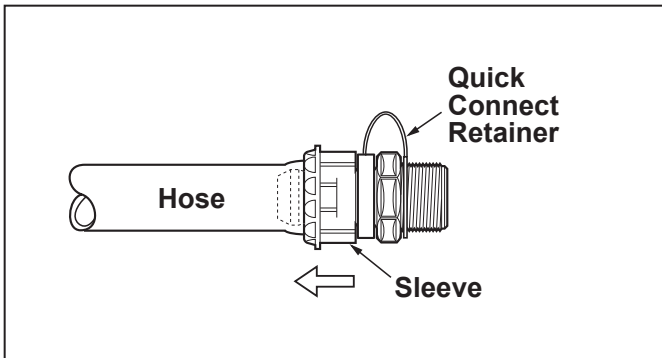

Figure 6. Install the Retainer Clip
5. Holding the hose in place, pull and twist the sleeve on the quick connect over the hose as far as possible. Snap the clip into place. See Figure 6.
NOTE The retainer clip must be installed. If the sleeve cannot be positioned on the quick connect to allow the retainer clip to slide in place, see Figure 6. Wet the inside of the hose in clean water and try again.
1. Verify that the installation is correct. Refer to Figure 6.